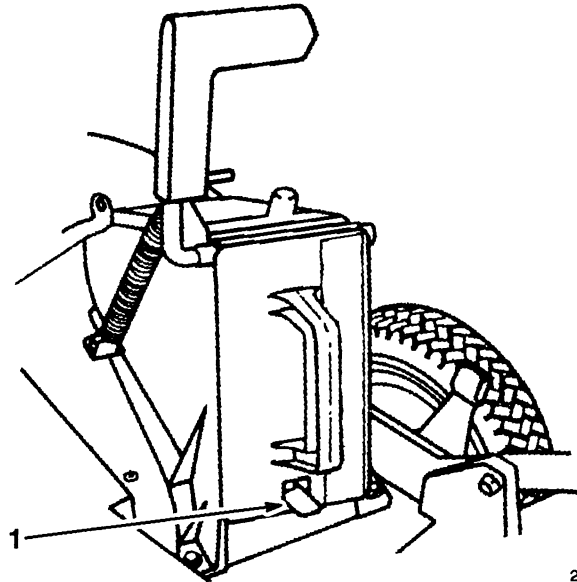

Figure 10
3. Push the plug all the way in until the spring clip on the bottom of the plug clicks into place, locking the plug securely into the discharge tunnel (Fig. 10). Release the discharge door handle to lock the top of the plug.